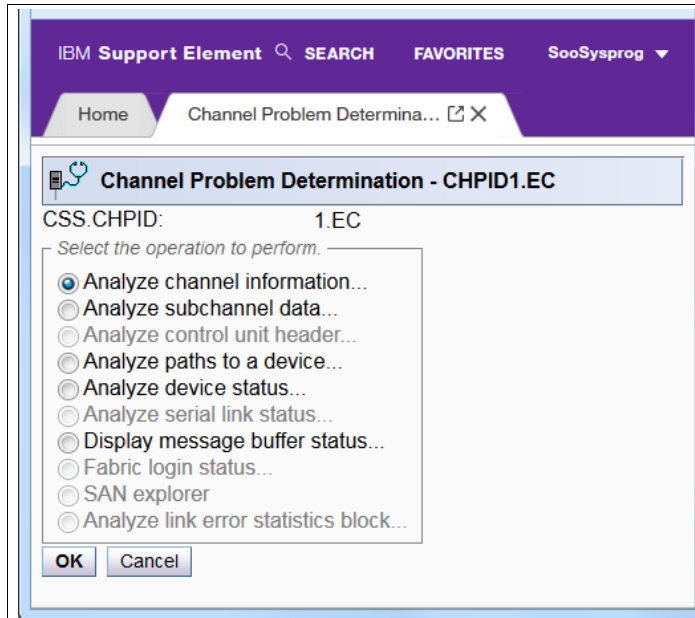

Figure 5-35 Channel Problem Determination: Analyze channel information
14.HMC now shows the Channel Problem Determination options. Select **Analyze channel information**. Then, click **OK** (see Figure 5-35).